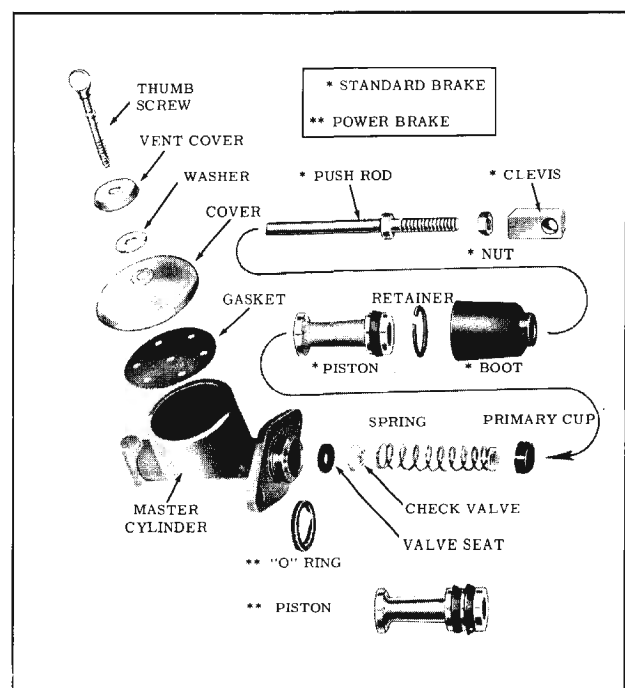

Fig. 7-8 Master Cylinder (Moraine)
## DISASSEMBLY (Figs. 7-8 and 7-9)
**ASSEMBLY (Figs. 7-8 and 7-9)**